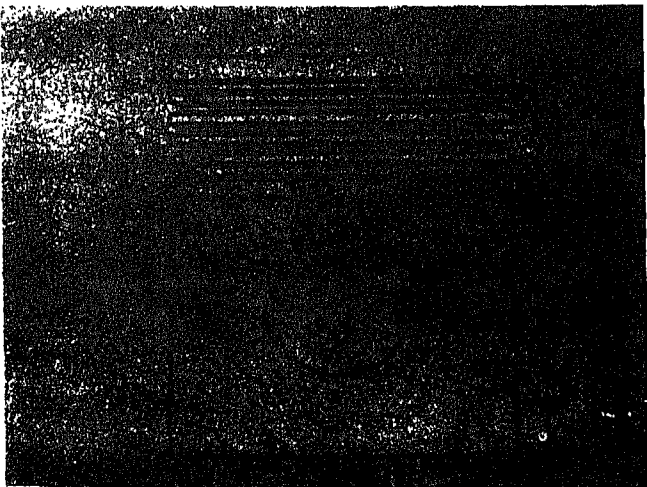

Fig. 1-9-3. Piston check points
*Refer to Fig. 1-9-3. **Three-ring pistons 144840
Measure piston skirt diameter with micrometer at right angle to piston pin bore (2, Fig. 1-9-3 for barrel-ground pistons), measure straight or tapered ground pistons at point 1 and 3. Pistons should not be reused if worn more than indicated in Table 1-9-2 on this diameter.